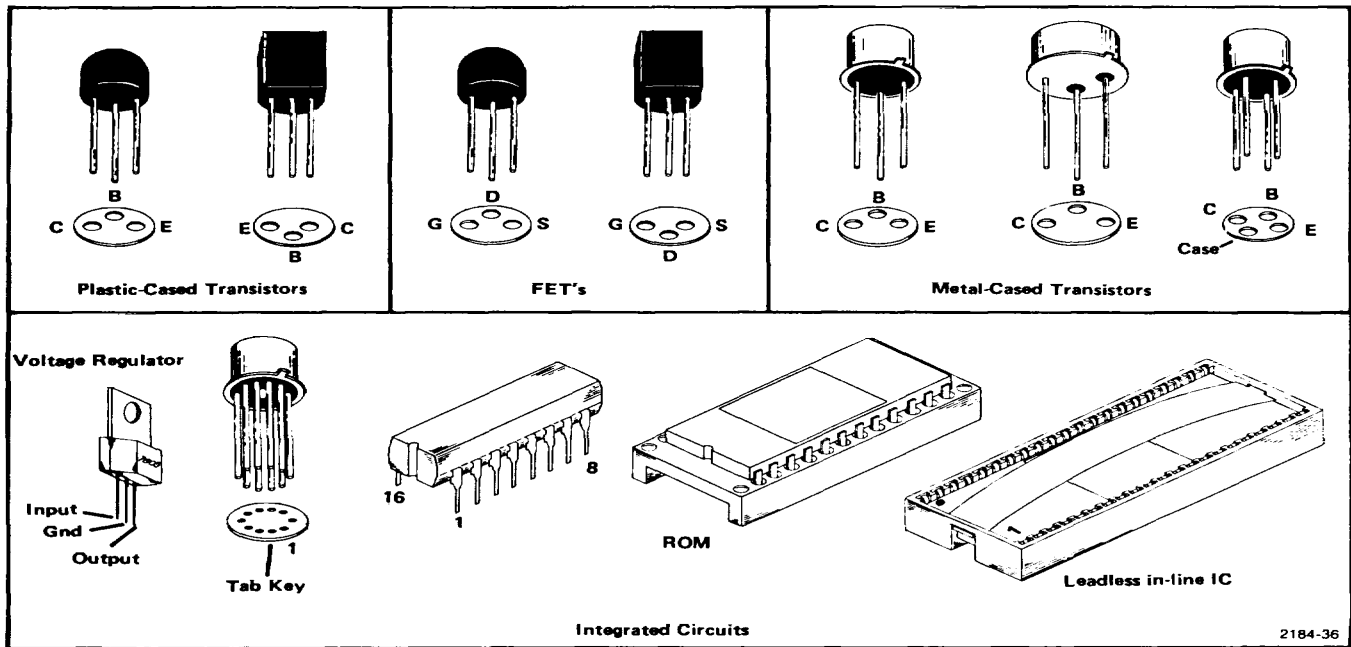

Fig. 5-4. Electrode configuration for semiconductor components.
**Transistor and Integrated Circuit Electrode Configuration.** Lead identification for the transistors is shown in Fig. 5-4. IC pin-out diagrams are shown, when necessary, on the back of the adjoining pullout schematic diagram.
d. --- Be sure the component (transistor or IC) is inserted properly in the socket (see Fig. 5-4 or the manufacture data sheet).
Replacement semiconductors should be of the correct type or a direct replacement. Fig. 5-4 shows the configuration of the semiconductors used in this instrument.